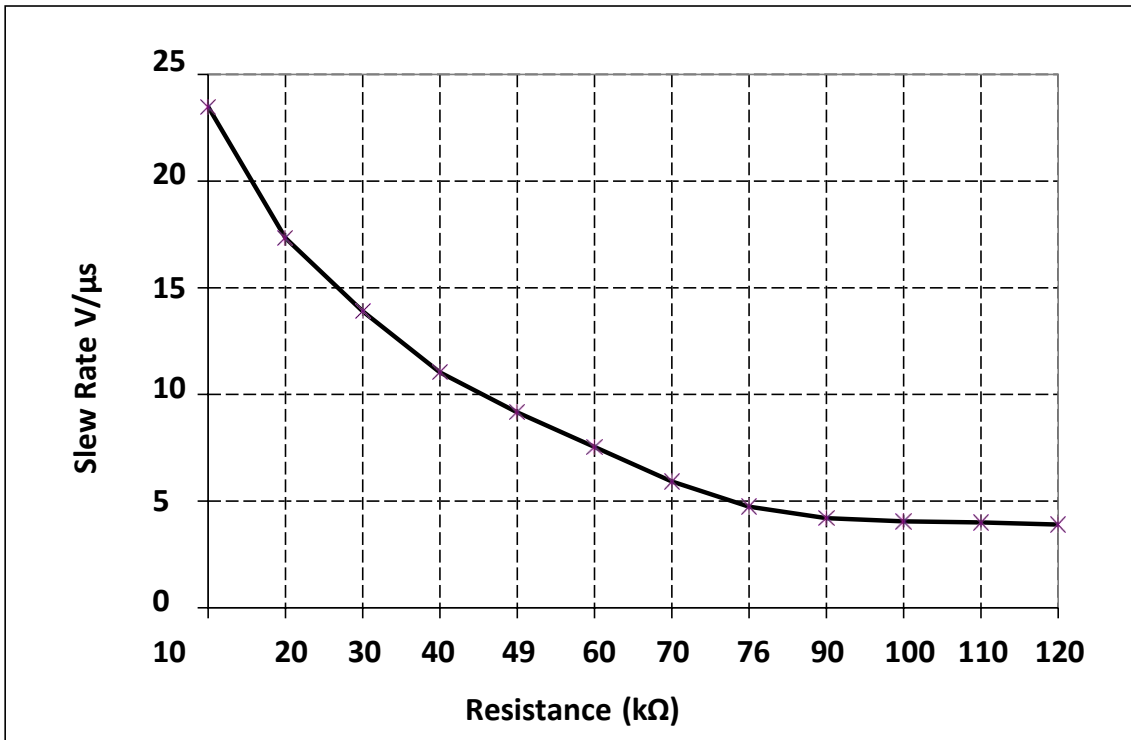

FIGURE 6-1 : SLEW RATE VS. SLOPE-CONTROL RESISTANCE VALUE
Slope-Control mode further reduces EMI by limiting the rise and fall times of CANH and CANL. The slope, or slew rate (SR), is controlled by connecting an external resistor (REXT) between RS and VOL (usually ground). The slope is proportional to the current output at the RS pin. Since the current is primarily determined by the slope-control resistance value REXT, a certain slew rate is achieved by applying a specific resistance. Figure 6-1 illustrates typical slew rate values as a function of the slope-control resistance value.